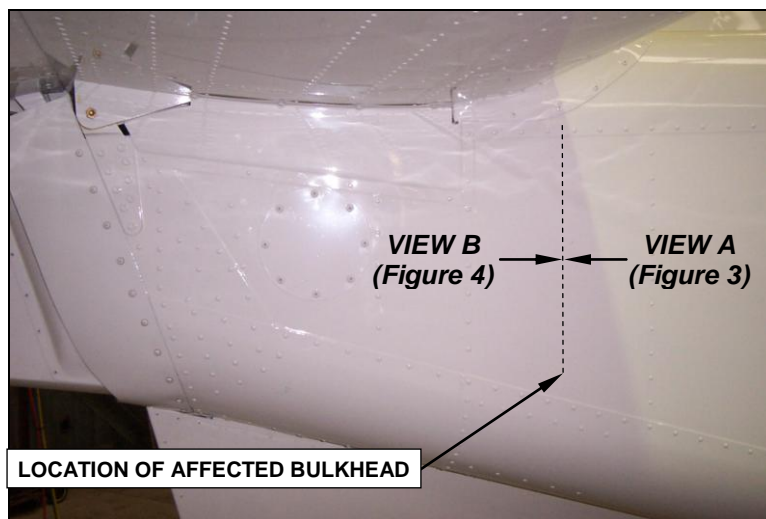
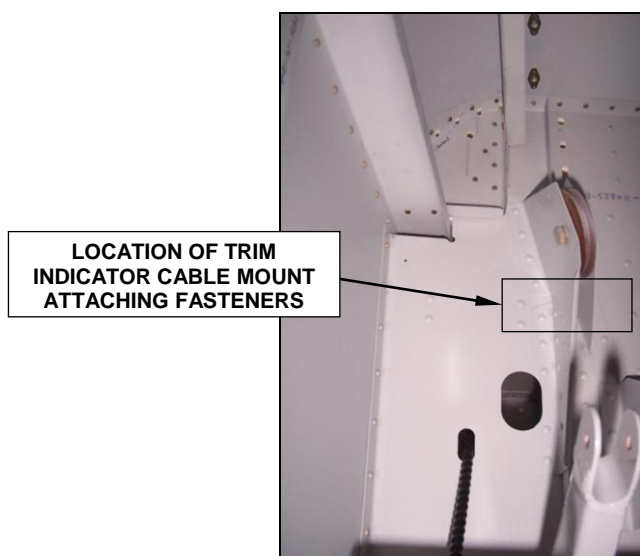

Figure 2
Figure 3 (View A) Looking Aft
For all applicable aircraft, inspect the horizontal stabiliser trim indicator clamp mount and the attaching bulkhead (refer to figure 2) in accordance with the inspection procedure detailed in section 1 of the instructions contained in this Service Bulletin at the next 100 hour/annual inspection after 30 April 2006.
- 1.4. If deflection of the trim indicator cable mount occurs with the horizontal stabiliser trimmed to the full leading edge down position, an inspection for cracking and other damage of the bulkhead and cable mount is required. To adequately inspect the bulkhead (location indicated in figure 2), remove the large access panel on the lower tail cone skin and inspect the forward face of the bulkhead around the trim indicator cable mount attaching fasteners (refer to figure 3). If defects are found, contact Gippsland Aeronautics. If no defects are found, perform the adjustment to the trim indicator cable in accordance with section 2 of this Service Bulletin (Rod End Adjustment Procedure).